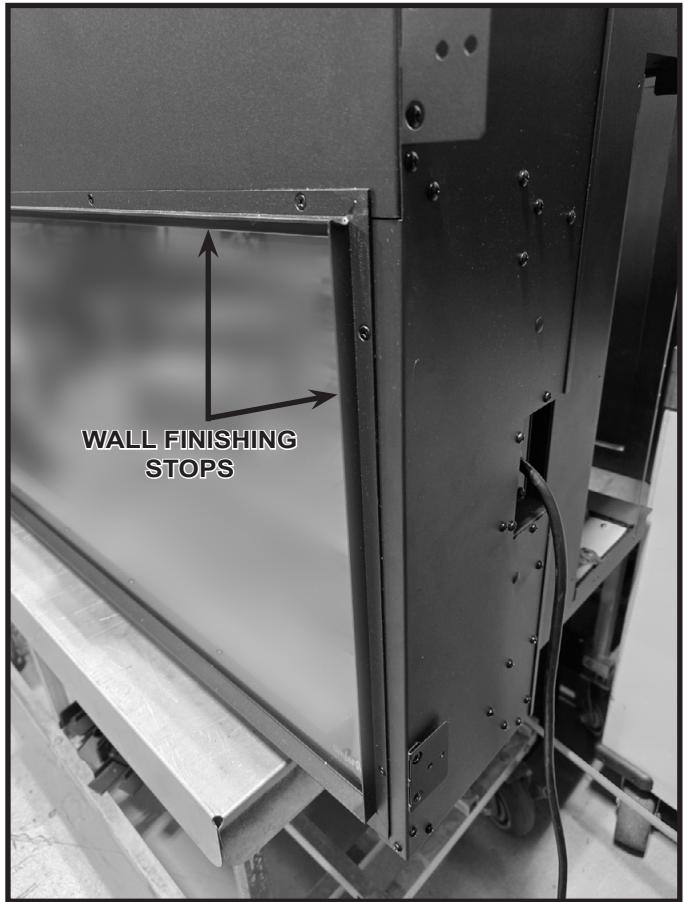

Figure 4.9 Wall Finishing Stop Locations
1. Remove four (4) M4x8 screws with washer from the Front Trim. There should be two (2) on each side. Once screws are removed, pull evenly to remove Front Trim from the appliance. Set aside in a clean and secure location.
3. If finishing with painted drywall or another desired facing material less than one inch in total thickness, install the material so that it mates with the finishing stops around the appliance opening or does not exceed one (1) inch. See Figure 4.9.
5. Install the front into the appliance opening, ensuring that the front fits snug against the finished wall. Use four (4) M4x8 screws and washers, two (2) on each side, to attach to the inside of the appliance.
6. With the Front attached, install the side panels into the slot located on the inside top of the appliance. When engaged, slide the bottom of the panel toward the side and screw into place with two (2) ST4x8 screws on each side.
3. Complete finishing of the wall around the appliance. Finishing materials can be installed up to the finishing stops. See Figure 4.9. There is no limitation to thickness of decorative facing materials.